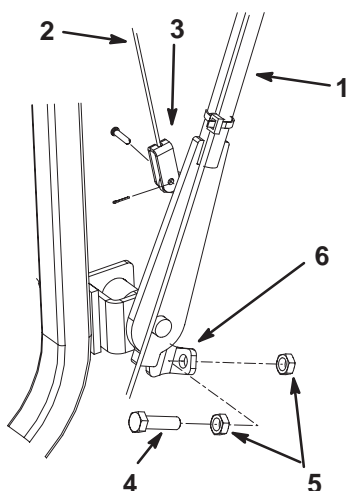

Figure 26
1. Move the bagger dump lever rearward to increase the slack in the bagger cable (Fig. 26).
2. Remove the cotter pin and clevis pin securing the bagger cable clevis to the bagger dump handle (Fig. 26).
3. Thread a jam nut (1/2 inch) all the way onto the bolt (1/2 x 1-3/4 inch) (Fig. 26).
4. Move the bagger dump lever forward to move the bottom of the lever away from the stop bracket (Fig. 26).
6. Secure the bagger cable clevis to the bagger dump handle with the clevis pin and cotter pin previously removed (Fig. 26).